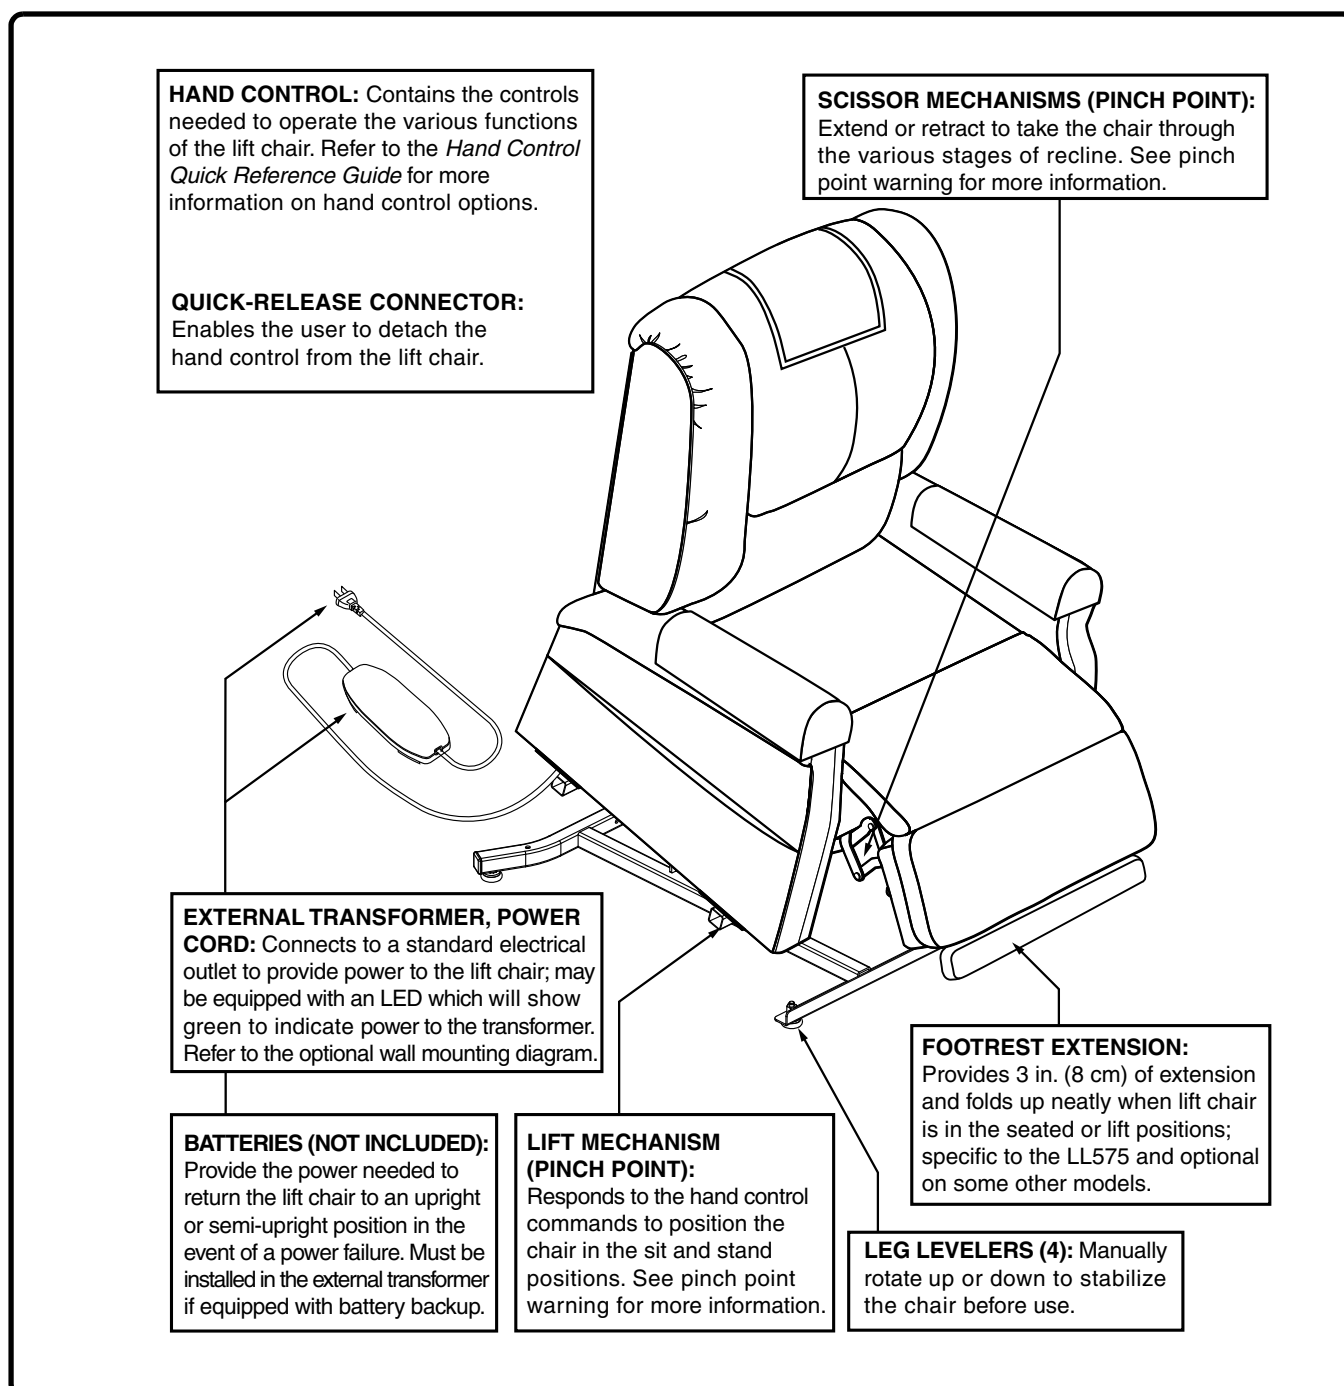

Figure 3.1 Lift Chair Main Components
The scissor and lift mechanisms are labeled as pinch/crush point hazards on your lift chair. Keep clear of these areas and make sure the path of motion is unobstructed. See **figure 3.1** for pinch/crush point locations.
Lift chairs are equipped with several frame and electrical components. Typically, frame (or body) components include a removable back pad*, removable chaise pad*, footrest, leg levelers, a lift mechanism, and scissor mechanisms. The electrical components include the external transformer, hand control, and batteries†(not included). Refer to **figure 3.1** and note that the illustrations and options listed may not reflect the type of lift chair that you own.
2. Adjust the leg levelers to stabilize the lift chair (**Fig. 3.1**).